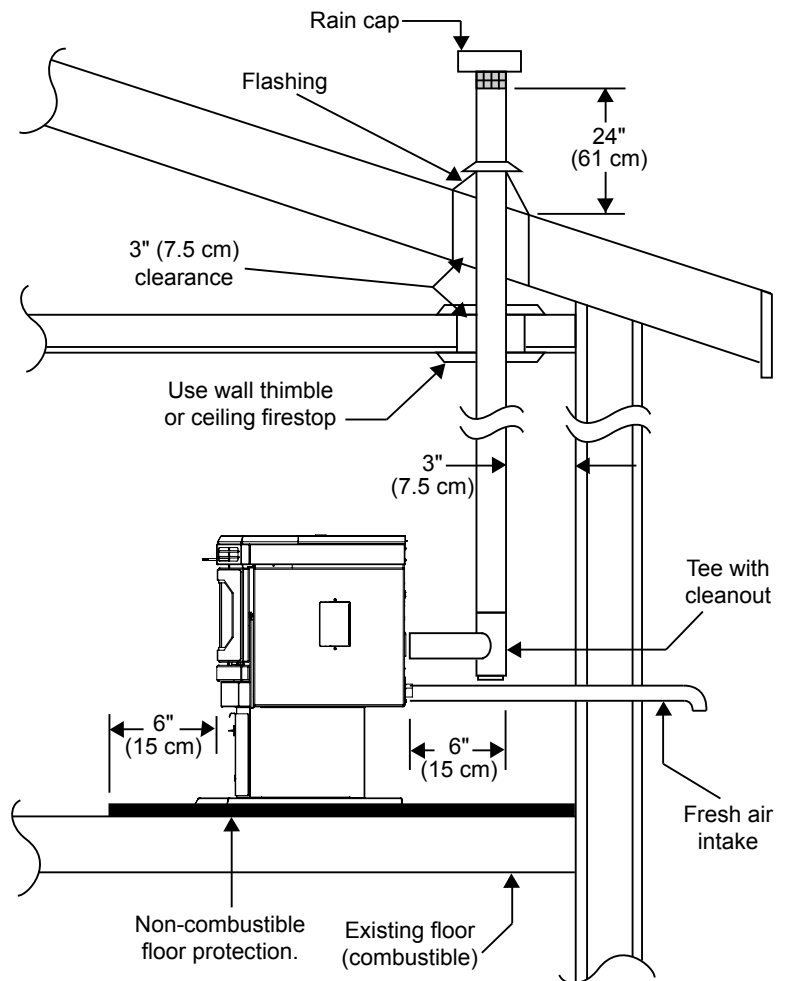
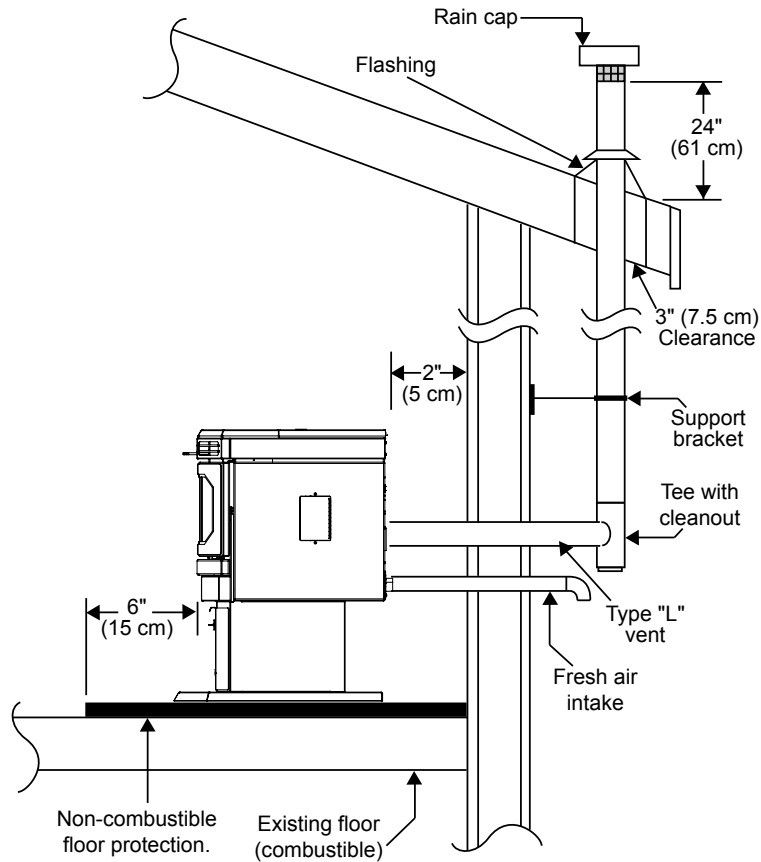

Figure 33: Inside Vertical Installation.
Figure 34: Outside Vertical Installation.
1. Attach one side trim to the top trim, using a corner bracket (see Figure 33) to secure pieces together. There are two (2) main pieces to each corner bracket (see Figure 34). When installing the corner pieces into the trim, the "B FACE" sides must face each other and the screw heads are to face out. With the bracket in place and the top and a side trim snug together, use a flat head screwdriver to turn the two (2) screws in the bracket to tighten it into the trim.